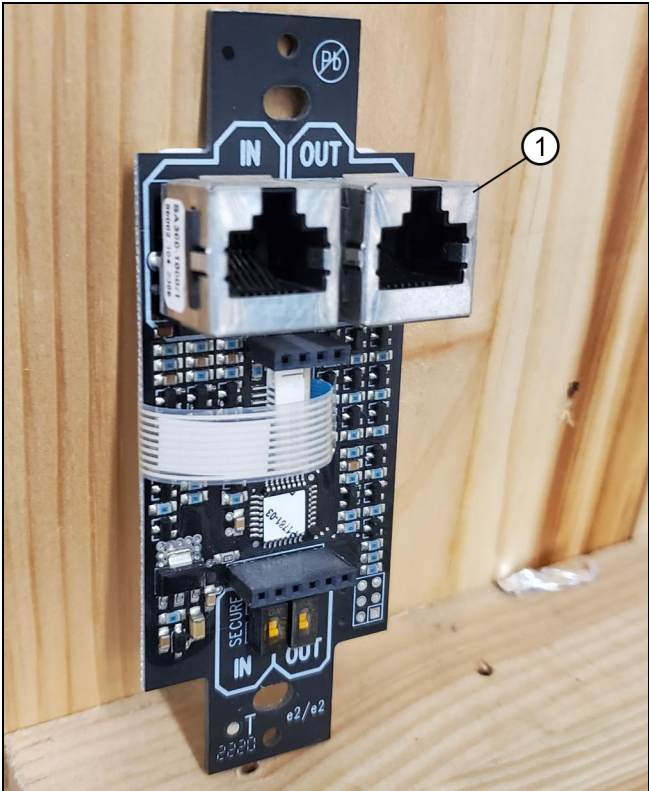
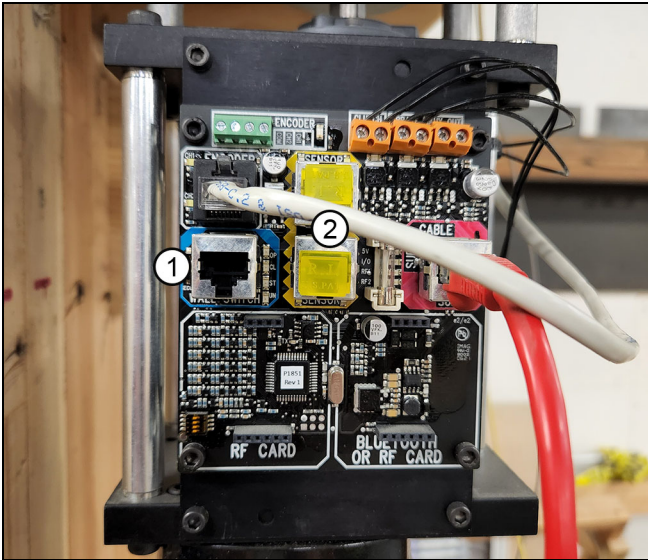

Figure 18
Figure 19
4. **Sensors:** connect the yellow CAT5e to the corresponding sensor port on the motor. See Figure 18 and Figure 19.